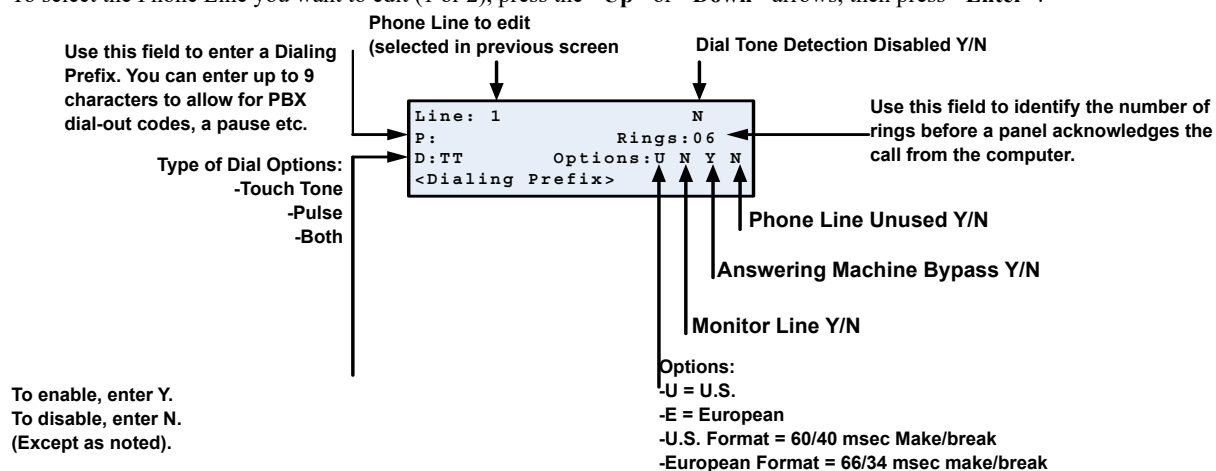

Figure 7.7 Phone Lines Editing Screen
2. Use the number buttons on the annunciator or the <Up> or <Down> arrow keys to select special characters. Characters begin displaying after “9”. See Figure 7.7 for an example.
Enable the Line Monitor for each phone line that you will use. See Figure 7.7 for the location of this field on the Phone Lines screen. When you enable the Phone Line Monitor for a phone line, a trouble condition occurs if the line is not connected. If you do not use a phone line, it must be disabled.